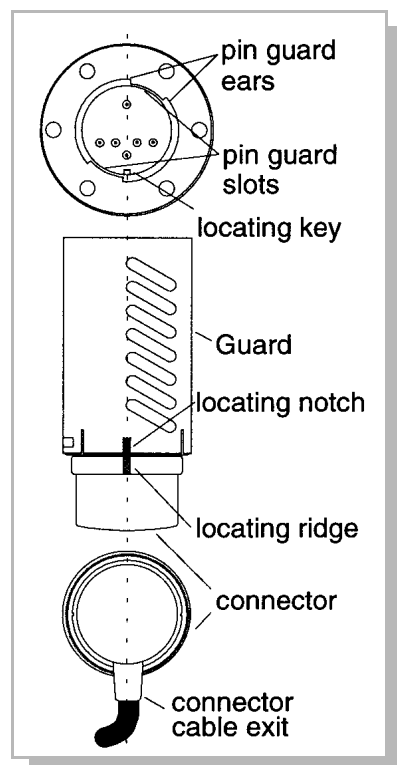

Figure 3-20 Stabil-Ion Gauge Connector Orientation (Prior to Installation).
- a. Line up the locating notch on the connector locking ring with the matching ridge on the blue connector shell. See Figure 3-20.